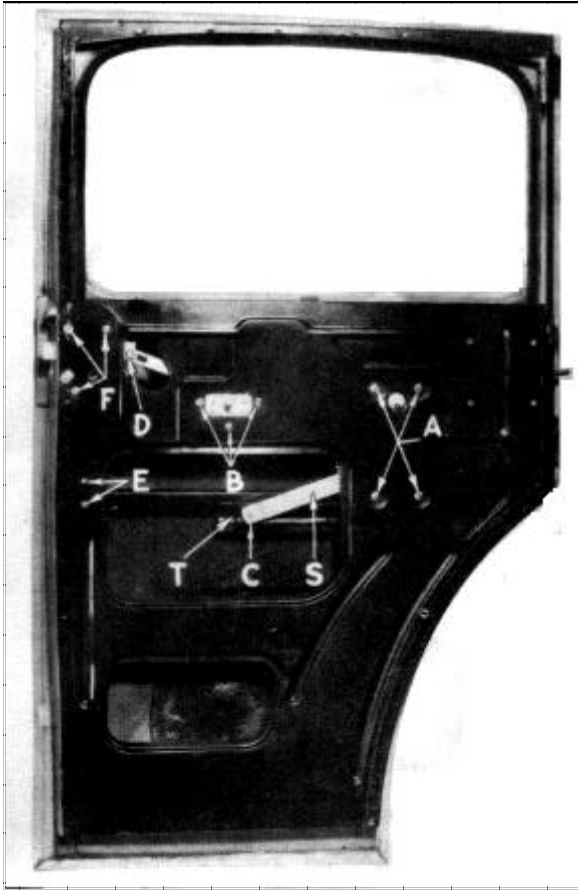

Figure 19--Rear Door
5. Remove screws (A), Figure 19.
6. Release regulator arm (S) from lower glass run channel (T) at (C).
6. Use a screw driver and pry the regulator arm (S) out of the lower glass run channel (T), Figure 19.
4. Remove screws and nuts (B), Figure 19.
5. Disconnect remote control from door lock at (D) and remove remote control.
7. Remove screws and nuts (E), Figure 19.
8. Remove screws (F).